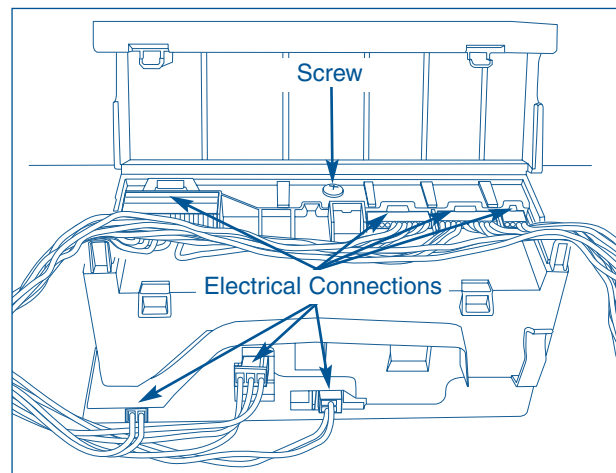

Figure 4-28.
6. Using a #2 square bit screwdriver, extract the screw securing the controller box to the unit frame and remove from unit. (See Figure 4-28)